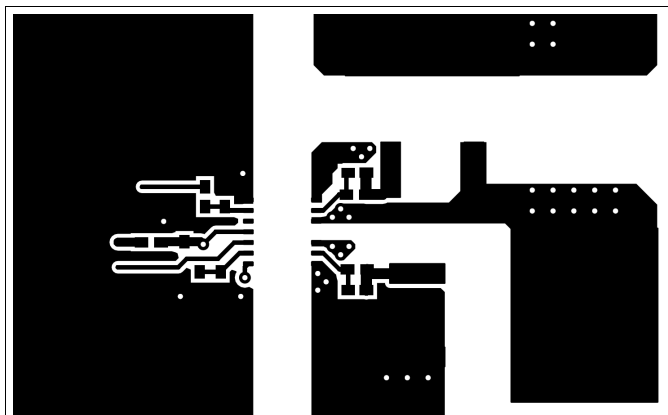
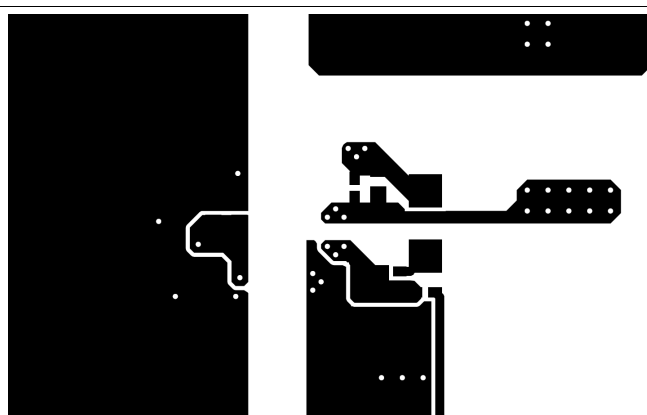

Figure 44. Top Layer Traces and Copper
Figure 45. Bottom Layer Traces and Copper
- Increasing the PCB copper connecting to VDDA, VDDb, VSSA and VSSB pins is recommended, with priority on maximizing the connection to VSSA and VSSB (see Figure 44 and Figure 45). However, high voltage PCB considerations mentioned above must be maintained.
Figure 44 and Figure 45 shows top and bottom layer traces and copper.